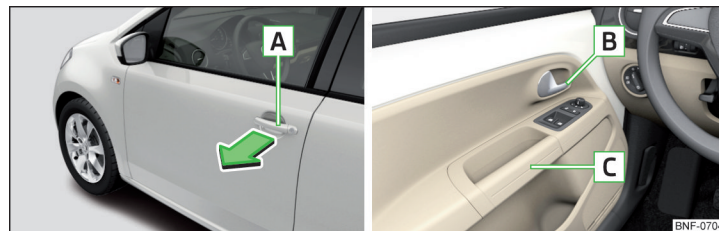

Fig. 32 Door handle/door opening lever
- To **open from the outside**, unlock the vehicle and pull in the direction of arrow » Fig. 32 the door handle .